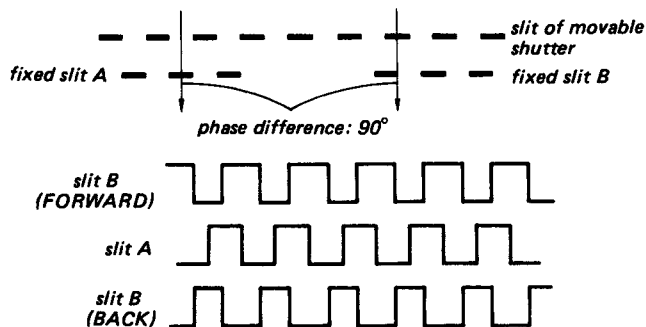

Fig. 6
**1-4-6. Drop-point and End Detection (see Figs. 6 and 7):**